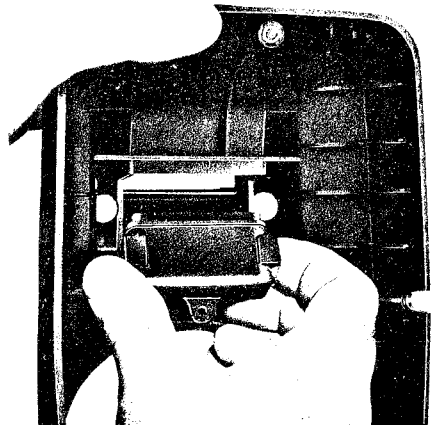

Fig. 25 — Handhole Cover
- Accessible when handhold cover is removed (Fig. 25).